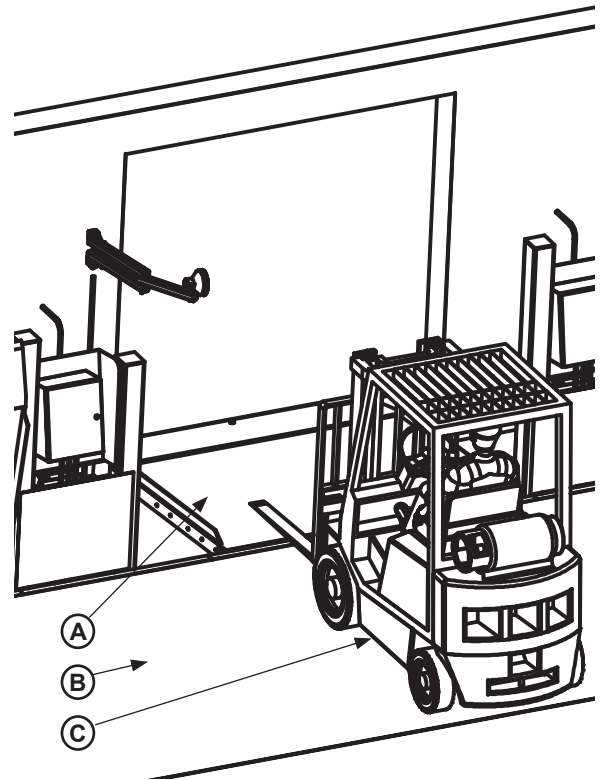

Figure 21
- a. Follow the dock equipment's sequence of operation to allow the leveler to operate. Then press and hold the lower button until the platform is a few inches above the rail car. See **Figure 21**.
b. Make sure the platform lowers to the rail car, while slowly driving a forklift's front wheels onto it. See **Figure 21**. If the platform does not reach rail car, check the adjustment of the yoke(s) to allow proper travel. See pages 18-19.